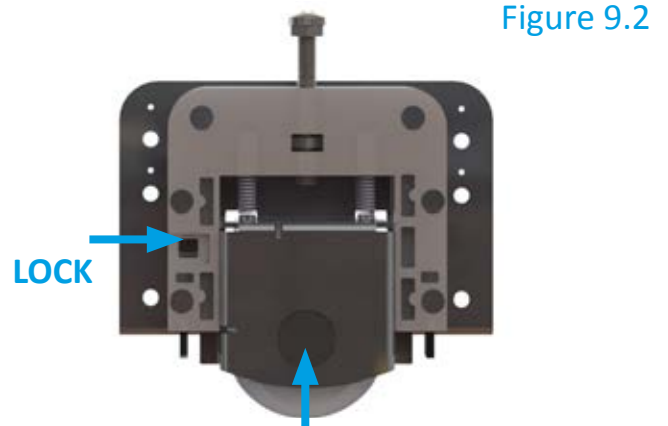

Figure 9.2
9. Lock the bottom roller by pushing up the wheel and sliding the clip into place as guided in **Figure 9.2**.